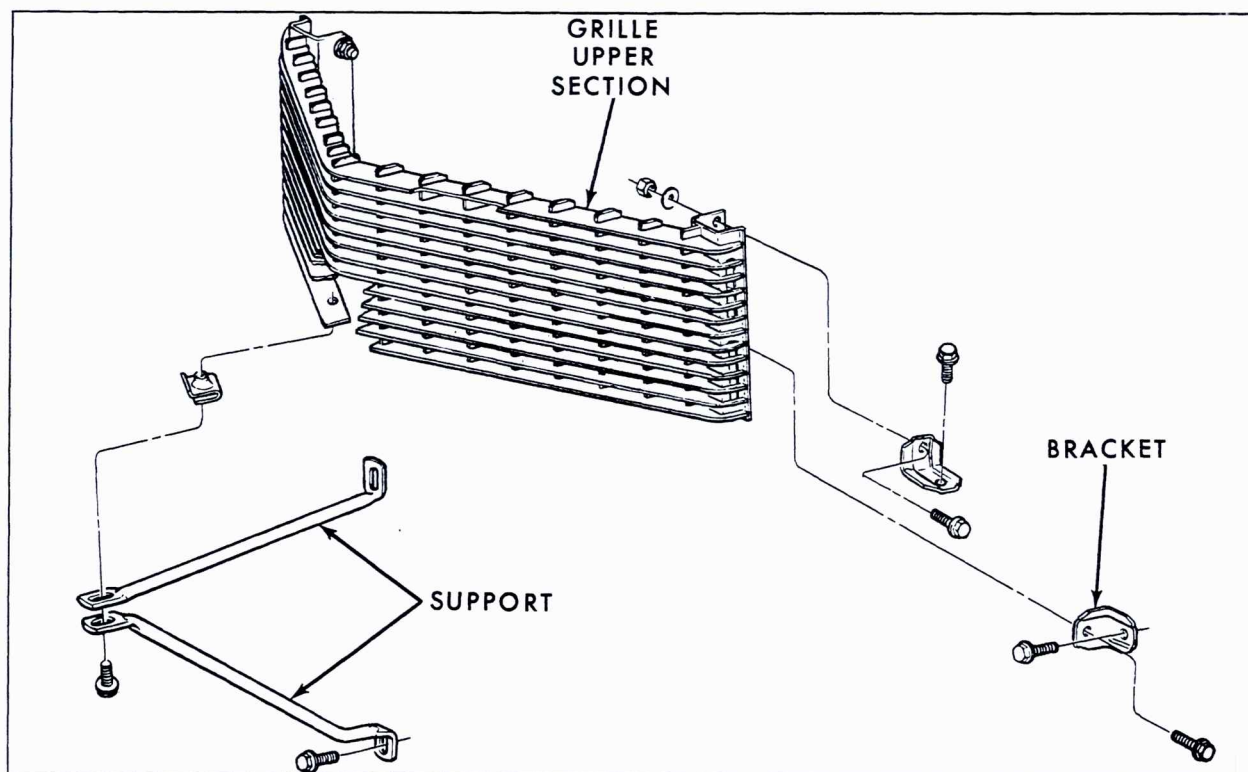

Fig. 13-7 Eldorado Grille - Disassembled
a. Removal (Fig. 13-7)
b. Installation (Fig. 13-7)